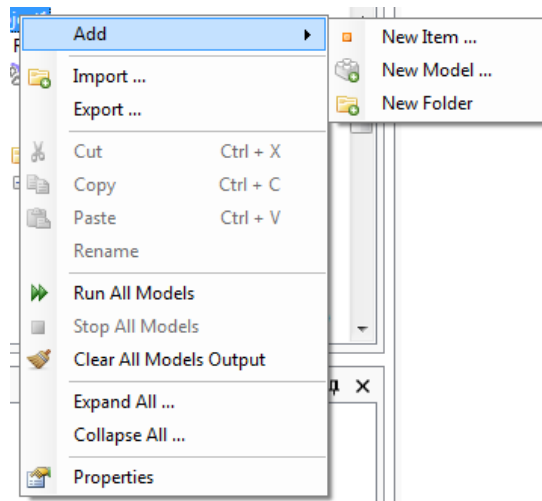

Figure 3.19: The context menu on the project level within the project explorer.
The context menu of the project level within the project explorer is shown in Figure 3.19. It contains the following choices:
- ◇ Folder items have the same context menu as the project level context menu depicted in Figure 3.19.